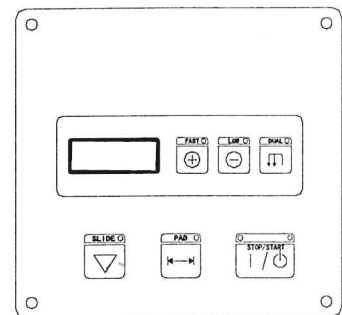

Figure 7
(1).1-color such as SPC-814E(see figure 7)